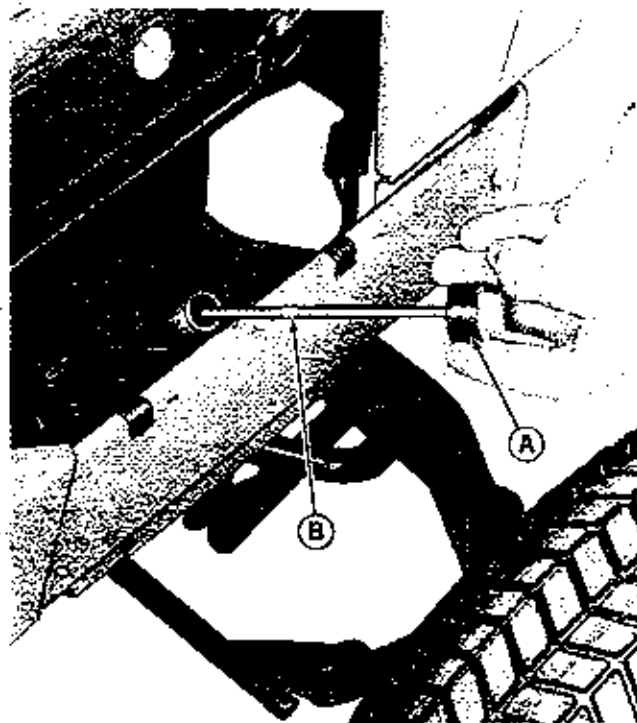

Figure 19. Checking the engine oil at right front of tractor.
**CHECK ENGINE CRANKCASE OIL LEVEL:** See figure 19. If the engine has been running, allow a minute or two for the oil to drain down into the crankcase before checking the oil level. Proceed as follows:
1. See figure 19. Turn the engine oil filler cap-dipstick (A) counter-clockwise and lift it out.
5. If the oil is below the full line (B) shown in figure 19, add enough oil to bring the oil level up to the full mark. Use the same grade and weight of oil which is already in the
4. See figure 19. Remove the filler cap-dipstick (A) and pour 2 quarts of oil into the engine through the oil filler pipe, being careful not to allow any dirt or foreign material to contaminate the oil.
5. Check the oil level. It should show up to the full mark (B) on the dipstick.